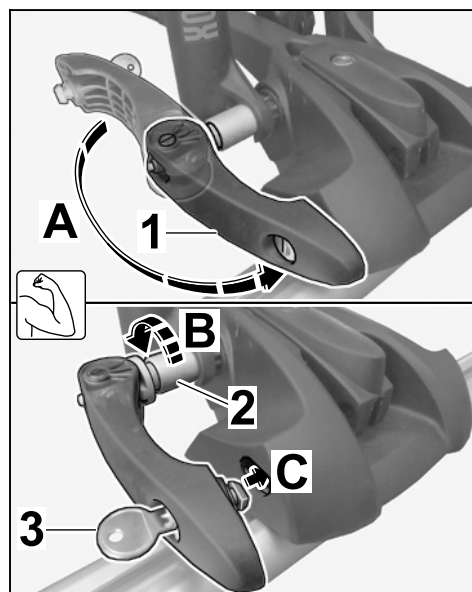

Figure 33
7.3.3 Adjust the tensioning lever towards the front wheel fork mounting using the required amount of force (⇒ *Figure 33-A*).
If too much force is required: Loosen the tensioning sleeve by one or two turns (⇒ *Figure 33-B*). Adjust the tensioning lever towards the front wheel fork mounting using the required amount of force (⇒ *Figure 33-C*).